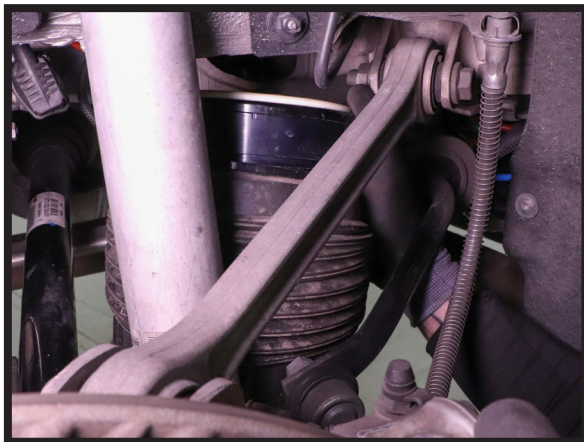

FIGURE 7
5. COMPRESS THE AIR SPRING AND REMOVE FROM VEHICLE. (FIGURES 7, 8)